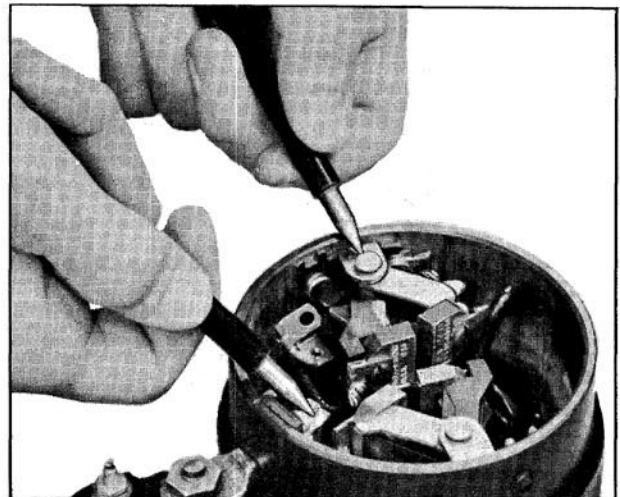

Fig. 13-55 Checking Field Coil for Ground
- c. Using a 110-volt test lamp, place one lead on the connector strap and the other on the field frame. (Fig. 13-55) Disconnect the shunt coil or coil ground before this check is made. If the lamp lights, the field coils are grounded and the defective coils will require repair or replacement.